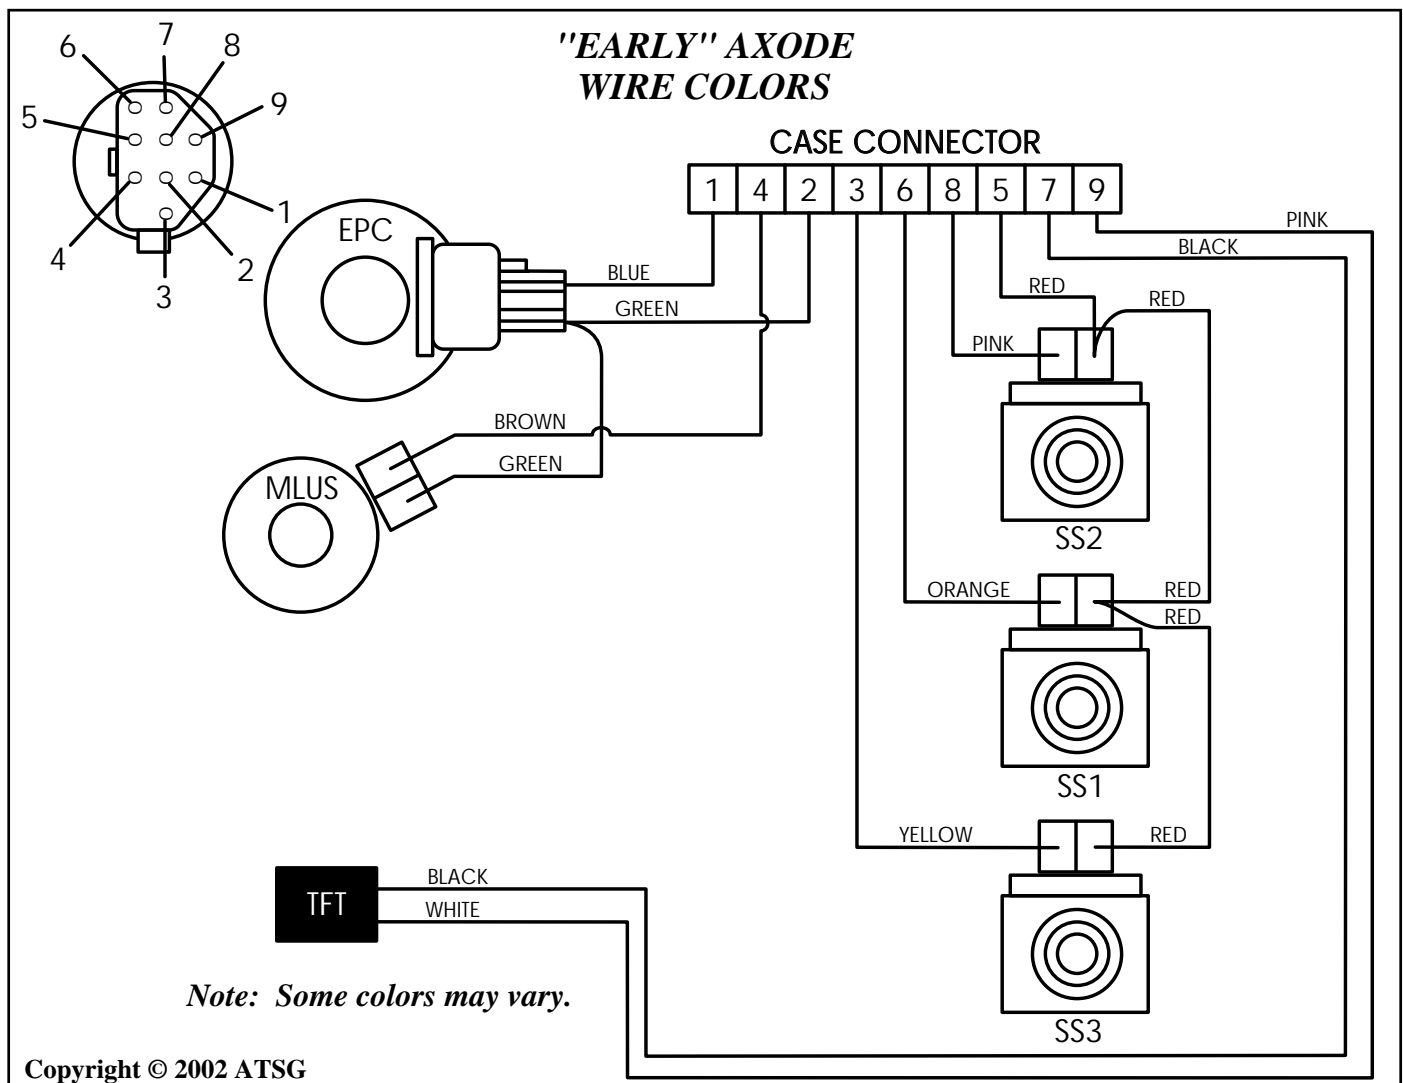

Figure 90
**CORRECTION:** Connect the internal wiring harness connectors to their proper solenoids, *using the wire colors*, as shown in Figure 90 and 91. Proper connection of solenoids can also be verified externally through the case connector using the Ohms chart in Figure 91.